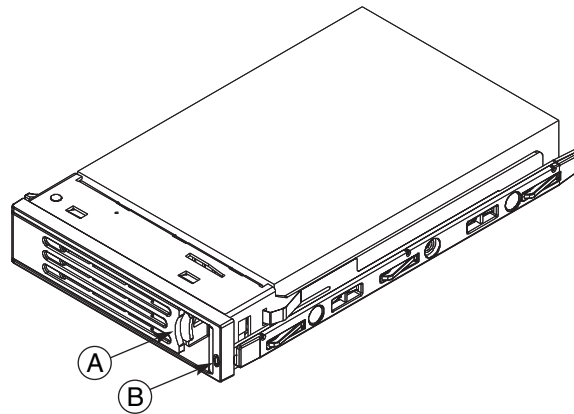

Figure 6. Hard Drive Carrier
The hot-swap hard drive carrier accepts 15,000-RPM and slower Ultra320 SCSI technology SCA-type hard drives. The peripheral bay supports Low Voltage Differential (LVD) SCSI disk drives only. Single-Ended (SE) SCSI devices are not supported in the peripheral bay. SE drives are only supported on the external SCSI connector. Hard drive carriers that accommodate 3.5-inch by 1.0-inch SCSI disk drives are required as part of the hot-swap implementation. The disk drive is attached to the carrier with four fasteners, and is retained in the chassis by a locking handle. Figure 6 shows a hard drive carrier that has been removed from the peripheral bay. The drive is accessed by pressing the latch to release the drive carrier door, then pulling out on the door.